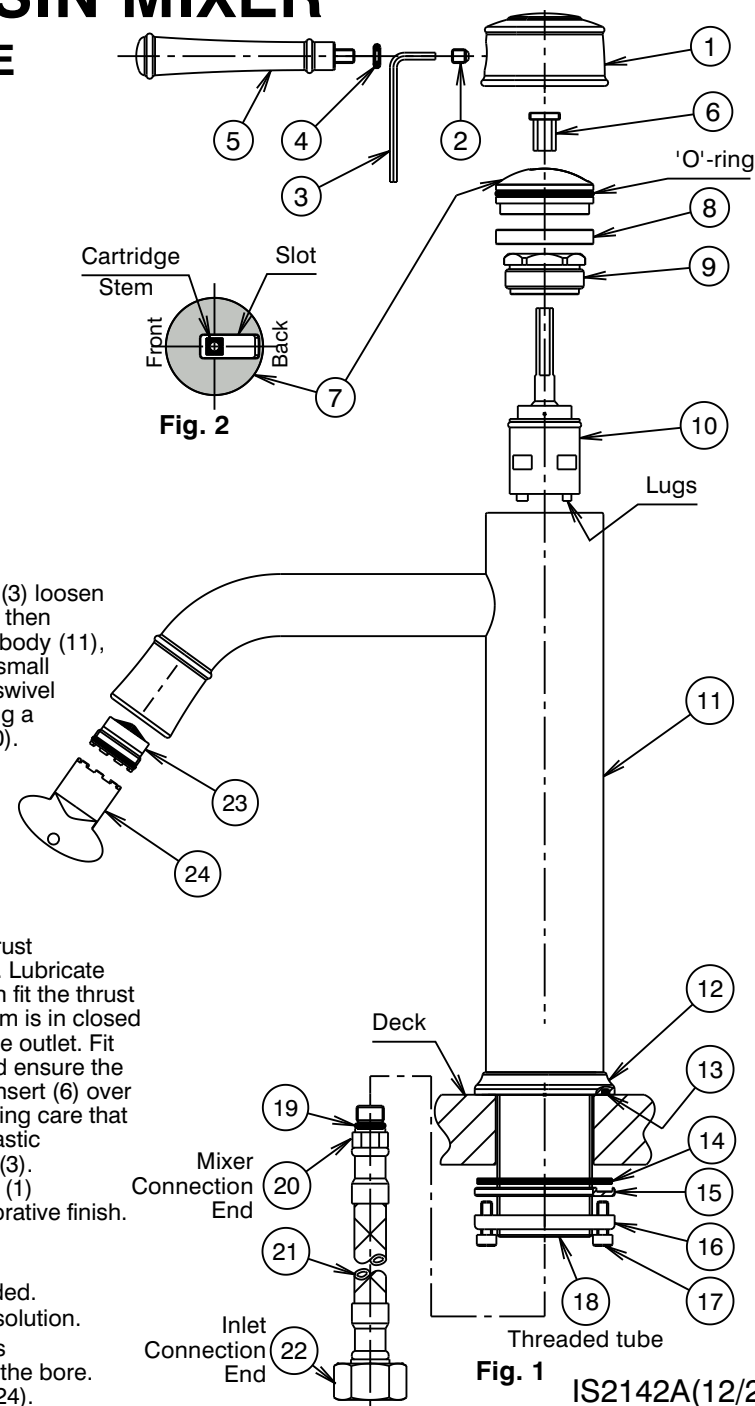

Fig. 1
- 1) From fixing pack fit 'O'-ring (13) into groove in base ring (12). Slide the base ring over the threaded tube (18) & locate spigot of base ring (12) into base of mixer body (11), as shown.
- 2) **Flexible Tail Mixer Connections:** Apply suitable lubricant to 'O'-rings (19). Fit flexible tail (21) (with red indication) into inlet hole marked with a Red Dot in underside of mixer body (11). Hand tighten the tail, ensuring the 'O'-ring (19) has fully entered the sealing bore to provide a watertight joint. Fit other flexible tail (with blue indication) into remaining hole in a similar manner.
- 3) Insert the inlet connection end (20) of each flexible tail (21) through the hole in the deck. Fit mixer (11) into deck hole, fit washer (15) together with flat seal (14) over threaded tube of mixer as shown (Fig.1). Screw clamp ring (16) onto threaded tube until it contacts washer (15) & the flat seal (14) has contacted the underside of the deck. Tighten two screws (17) using a 3mm allen key until mixer assembly is clamped firmly to the deck. DO NOT OVERTIGHTEN.
- 4) **Flexible Tail Inlet Connections:** Connect the flexible tails (21) to the hot and cold isolating stop taps, hand tighten the fixing nut (22) until rubber cone contacts the sealing face of the connection end, then tighten a further one turn to provide a watertight joint.